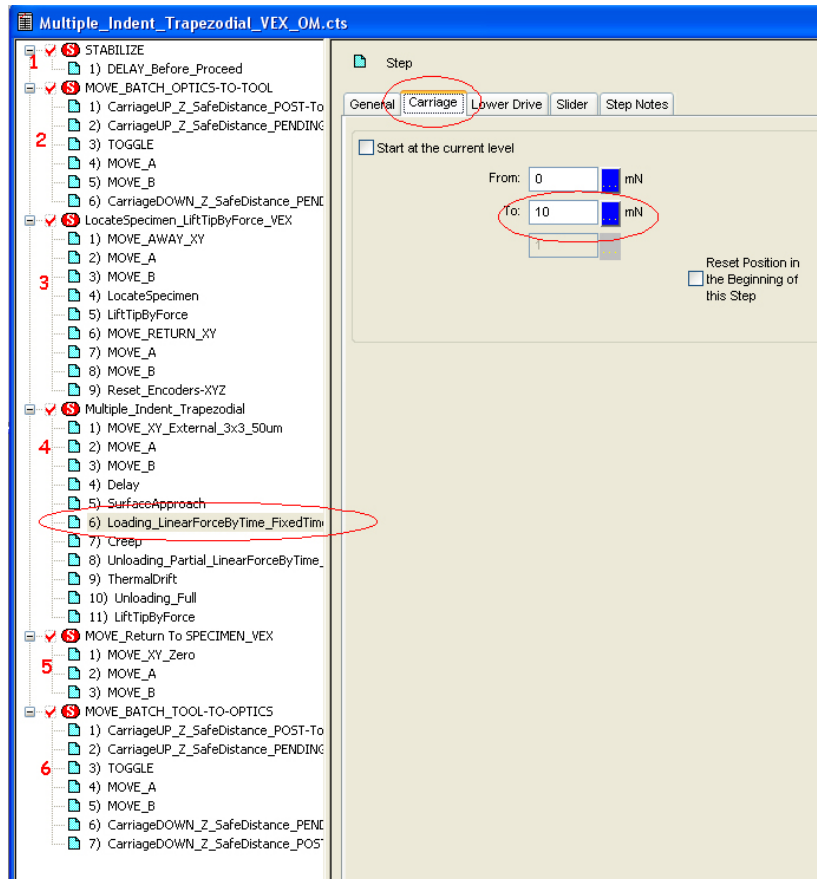

Figure 8: Location of Indentation Force.
- 2) Navigate to the 4th sequence and the sixth step called "Loading_LinearForcebyTime_FixedTime" and select the "Carriage" tab as shown in Figure 8.